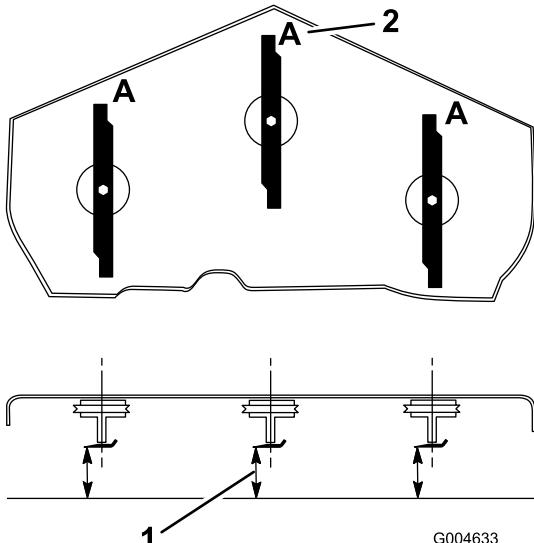

Figure 70
3. Rotate the blades until the ends face forward and backward (Figure 70).
Note: Measure from a level surface to the cutting edge, position A, of the blades (Figure 70). Note this dimension.